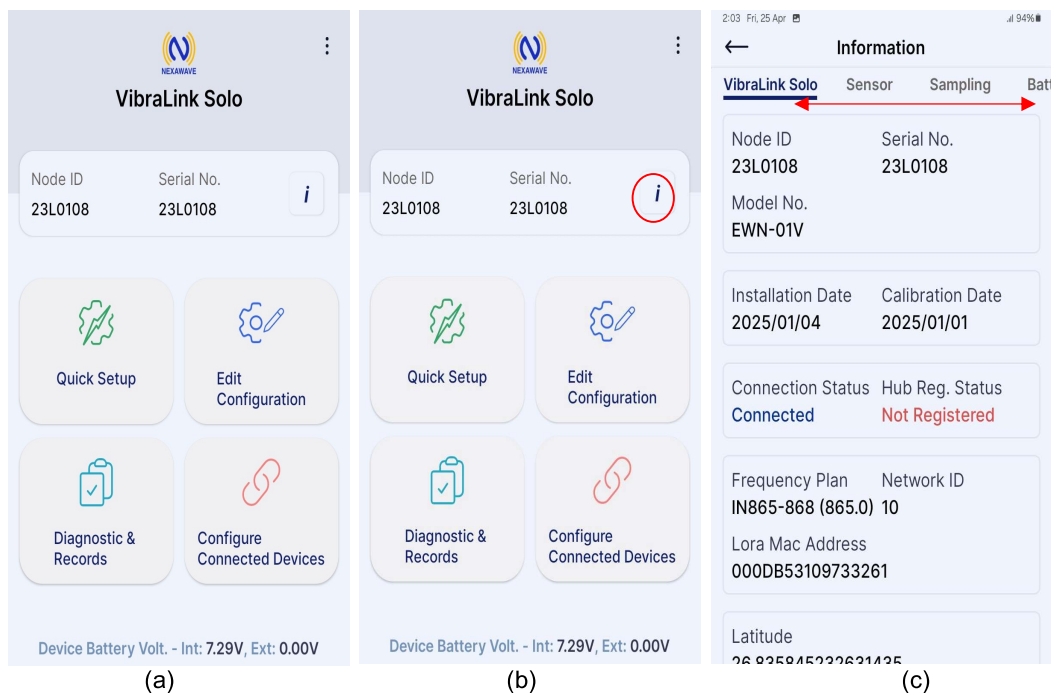

Figure 5-12
- It will take you to the home screen of the VibraLink, as shown in Figure 5-12 (a). Clicking on the 'i' button (Figure 5-12 (b)) will open the information window. Within this window, you can scroll to view information about the VibraLink, sensor, sampling, battery, and the phone (Figure 5-12 (c)).